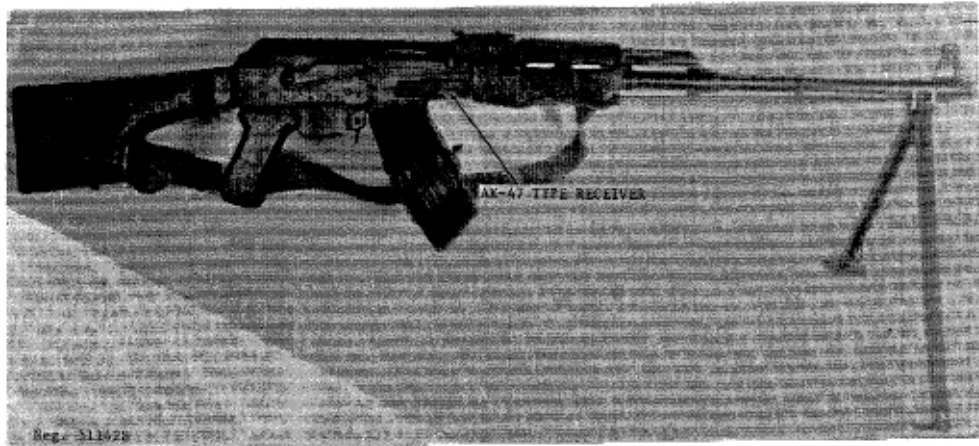

Figure 129. Vietnamese TUL-1 light machinegun.
b. The RPK is the standard squad automatic weapon for the Warsaw Pact armies and is produced by several nations. The Romanian RPK (fig 128.1) differs from other RPK's in that it has an adjustable bipod. By loosening the thumb screws on the hollow of the bipod, the height of the weapon over the ground can be varied (fig 128.2). The origin of an RPK can be ascertained by comparing its selector markings with those in figure 57. The Vietnamese produce an RPK-like weapon, the TUL-1 (fig 129).